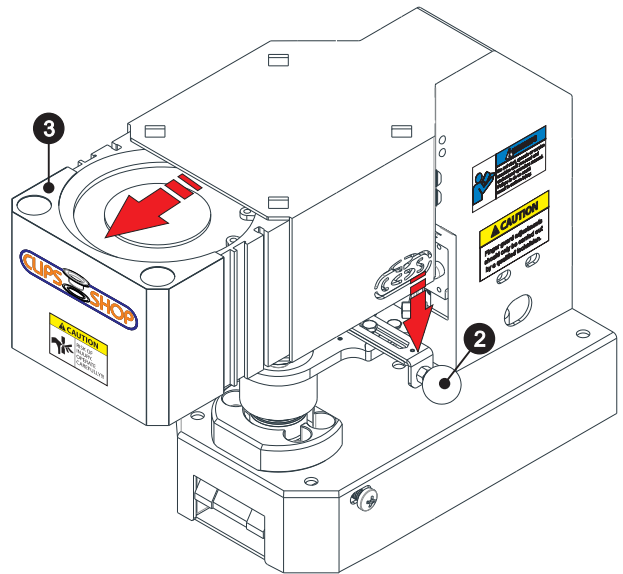

fig. 84
While pulling the manual starting arm② down, pull the pneumatic cylinder③ out of the machine body in the arrow directions as shown in the (fig.84).